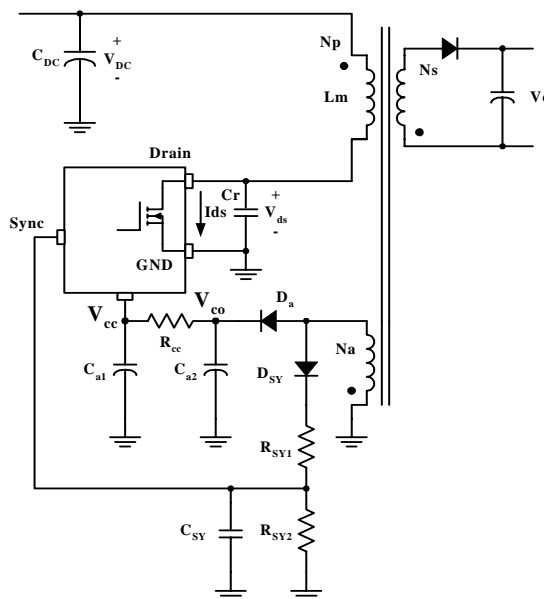
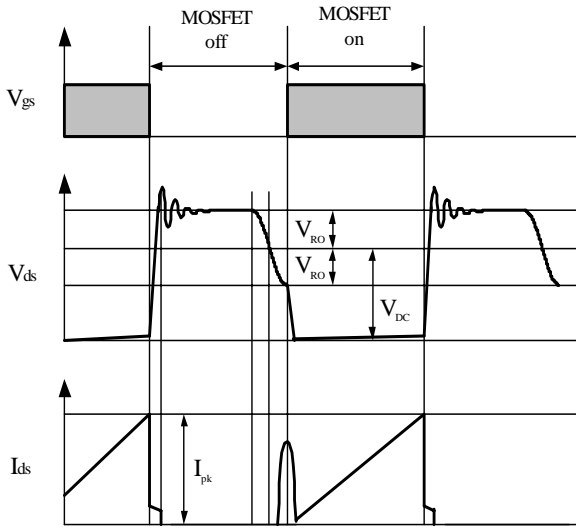
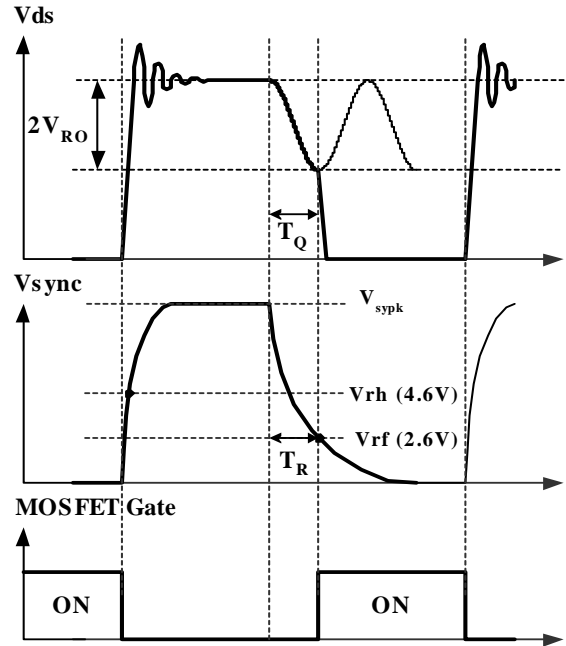

Figure 6. Synchronization circuit
Figure 7. Quasi-resonant operation waveforms
Figure 8. Normal quasi-resonant operation waveforms
2. Synchronization : FSCQ0765RT employs quasi-resonant switching technique to minimize the switching noise and loss. In this technique, a capacitor (Cr) is added between the MOSFET drain and source as shown in Figure 6. The basic waveforms of quasi-resonant converter are shown in Figure 7. The external capacitor lowers the rising slope of drain voltage to reduce the EMI caused when the MOSFET turns off. In order to minimize the MOSFET switching loss, the MOSFET should be turned on when the drain voltage reaches its minimum value as shown in Figure 7.
The minimum drain voltage is indirectly detected by monitoring the Vcc winding voltage as shown in Figure 6 and 8. The voltage divider R_{SY1} and R_{SY2} should be chosen so that the peak voltage of sync signal (V_{syPk}) is lower than the OVP voltage (12V) in order to avoid triggering OVP in normal operation. It is typical to set V_{syPk} to be lower than OVP voltage by 3-4 V. In order to detect the optimum time to turn on MOSFET, the sync capacitor (C_{SY}) should be determined so that T_R is the same with T_Q as shown in Figure 8. The T_R and T_Q are given as, respectively